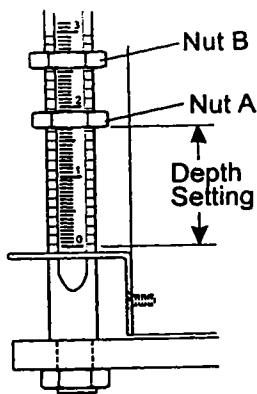

FIGURE 5
1. As shown in Figure 5, set bottom side of nut (A) even with the desired depth setting.
2. Tighten nut (B) against (A) to secure in position.